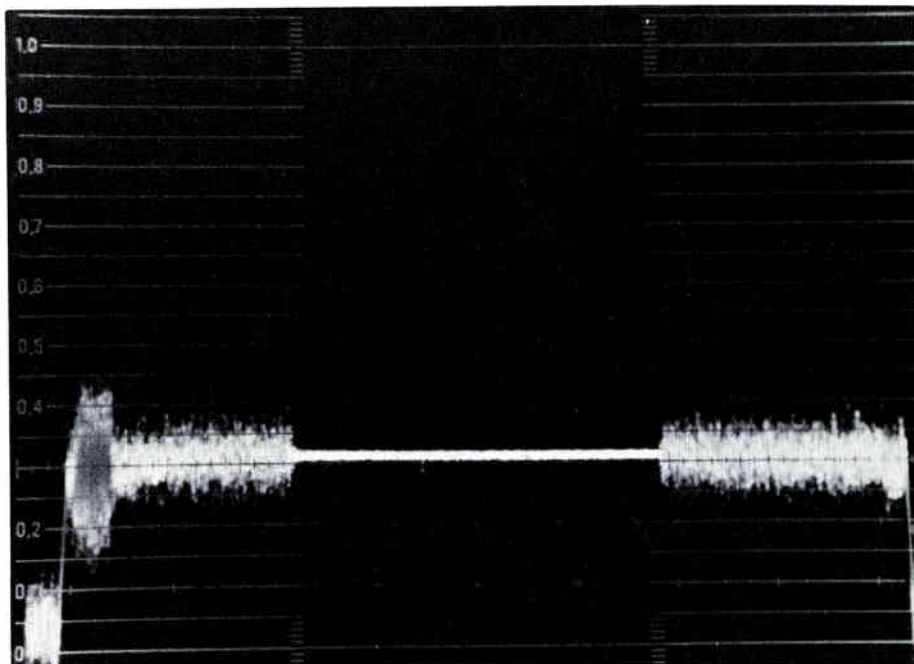

Figure 9-6 Match level with input signal
7. Match the calibrated noise generator level to the incoming noise and read the noise directly from the dials. This is the S/N ratio (figures 9-6 and 9-7).
8. The signal-to-noise ratio as requested by the FCC in 376.605(9) is actually the carrier-to-noise ratio which can be obtained by adding 4 dB to the reading obtained in step 7.